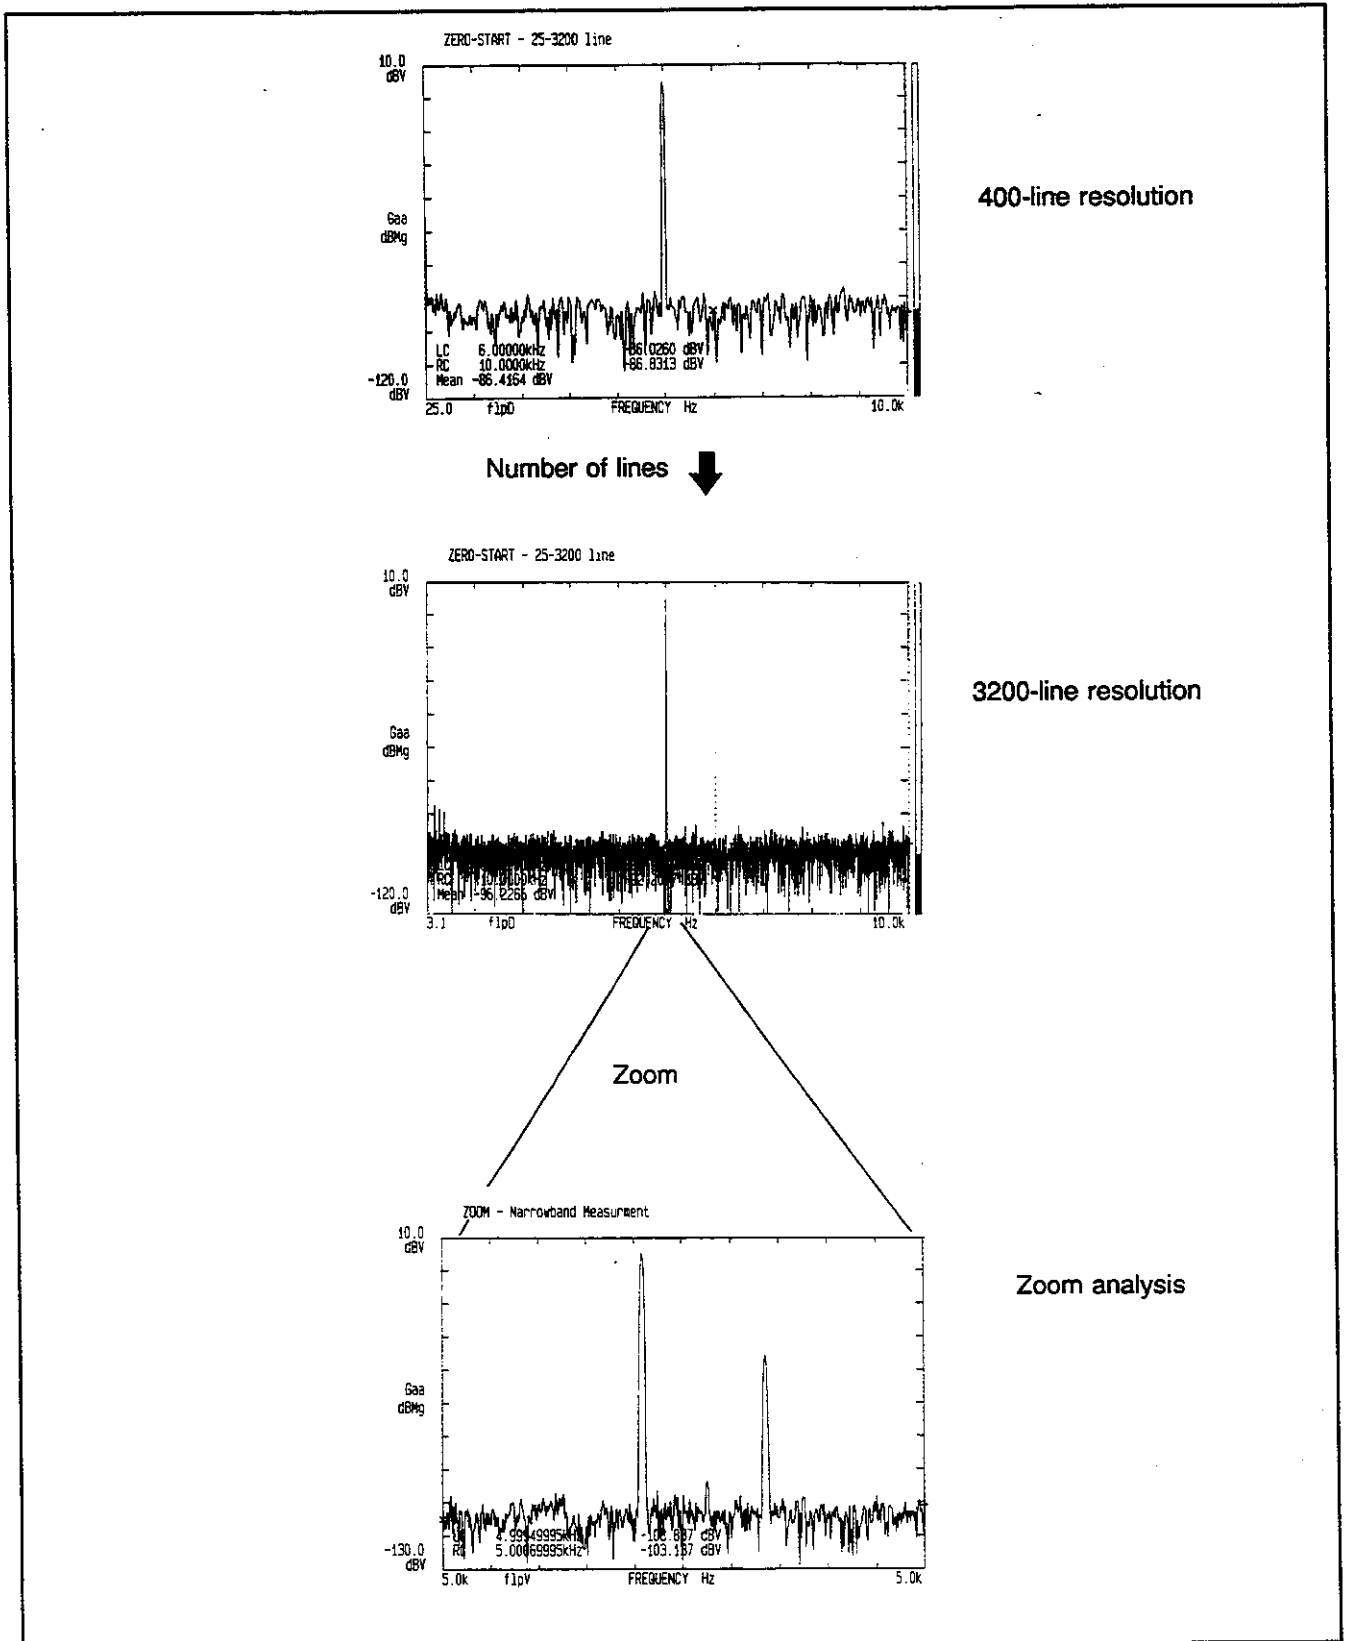

Figure 2-3 Number of Lines and Zoom Effect
See Figure 2-3.
1. The frequency resolution is enhanced and the noise floor of the measurement system including the measuring equipment is reduced when the number of lines increases. (See Figure 2-3.)